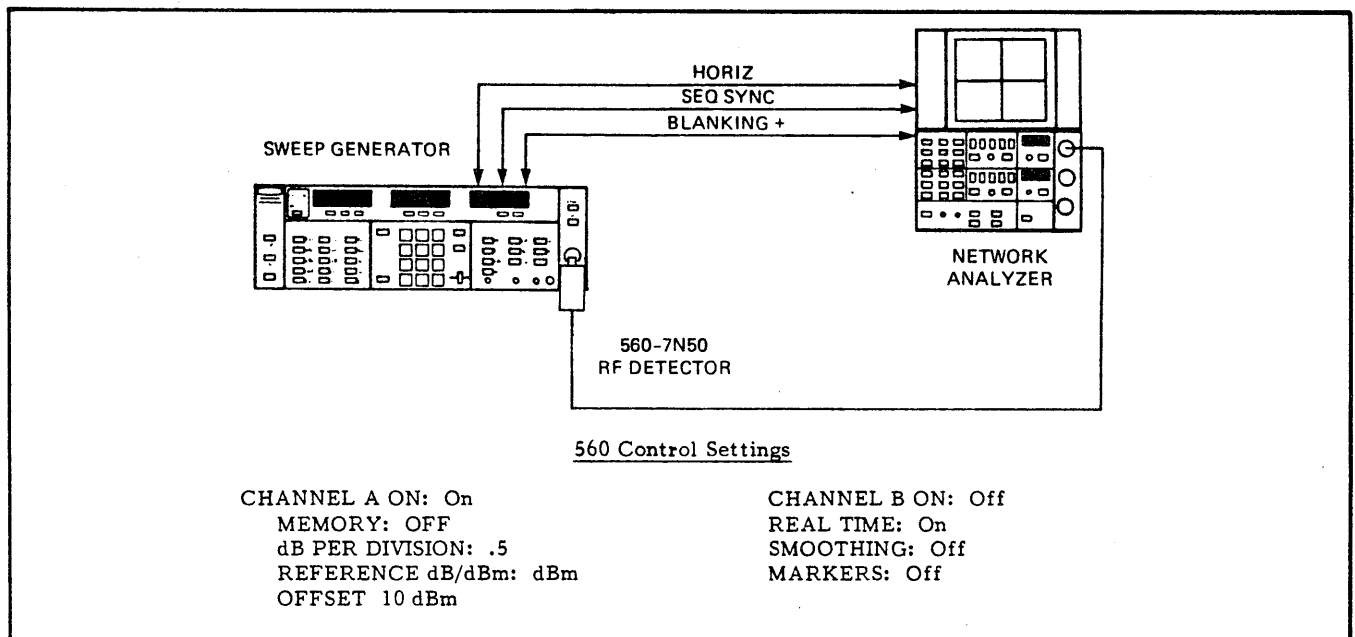

Figure 5-40. Test Equipment Setup for Detector Tracking Adjustment
1. Set up the test equipment as shown in Figure 5-40, and turn the equipment on.